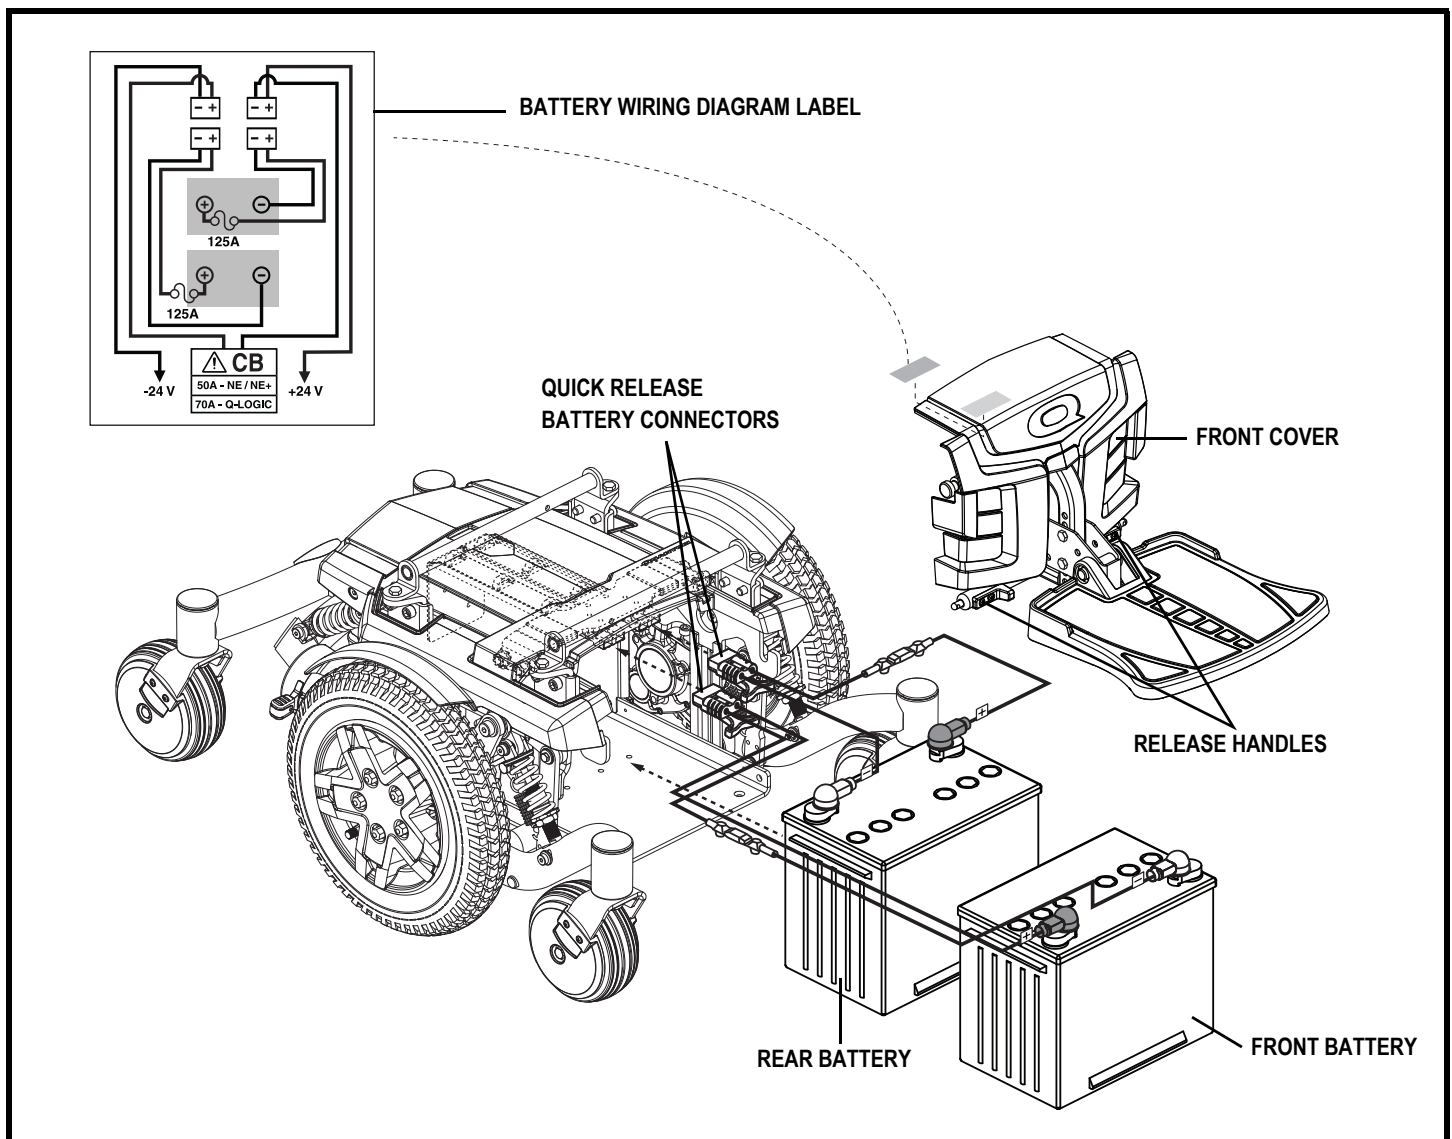

Figure 24. Battery Installation
3. Remove the front cover by squeezing the release handles (see figure 24) and lifting the foot platform bracket up and away from the power base.
7. Connect the battery harness to the new front battery according to the battery wiring diagram. See figure 24.
8. Connect the battery harness to the new rear battery according to the battery wiring diagram. See figure 24.